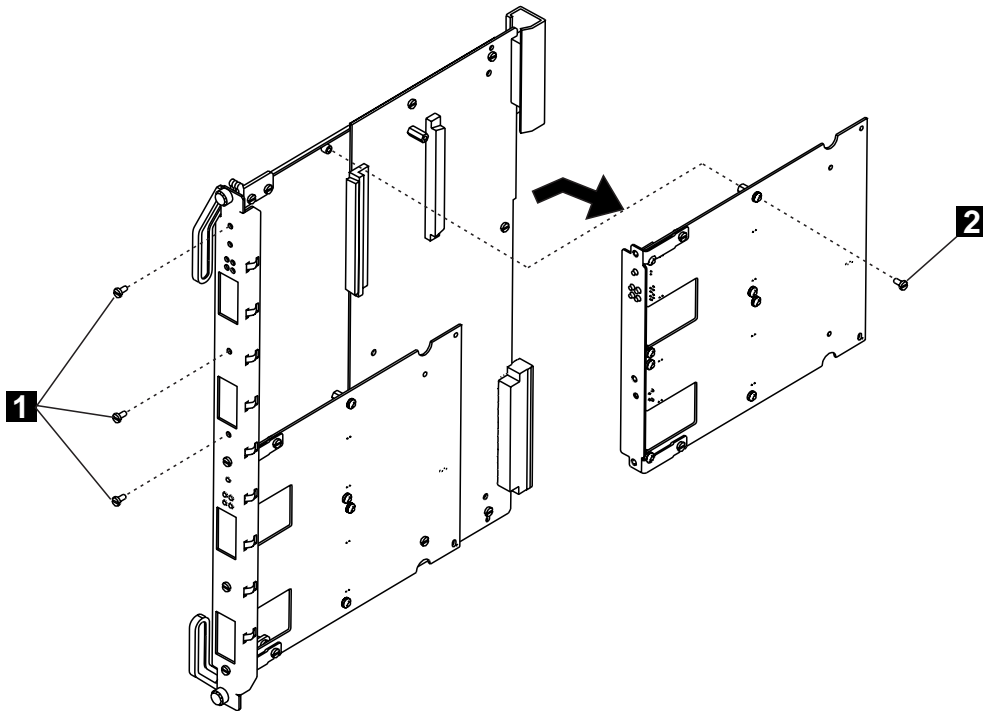

Figure 7. Removing the Motherboard
- 2 Detach the motherboard on which you want to install the I/O card by removing the four screws (1 and 2 in Figure 7) that hold the motherboard to the module. Retain the screws for reattaching the motherboard.